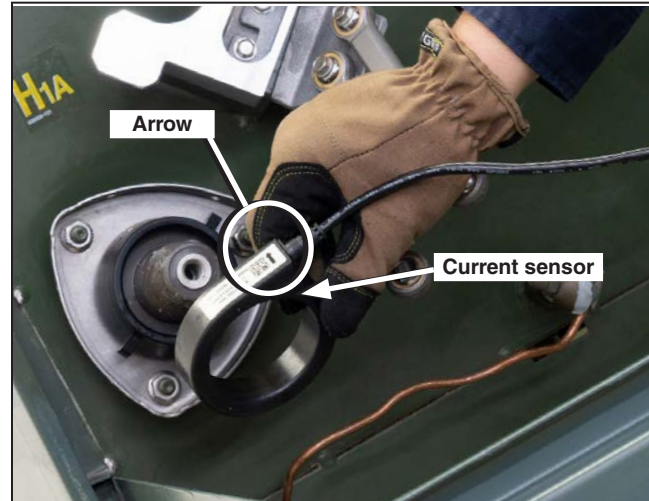

Figure 17. Current sensor installation. The arrow should be pointing toward the transformer.
- STEP 2.** Slide the current sensor onto the H1A bushing well adapter with the arrow pointing toward the transformer, as shown in Figure 17.